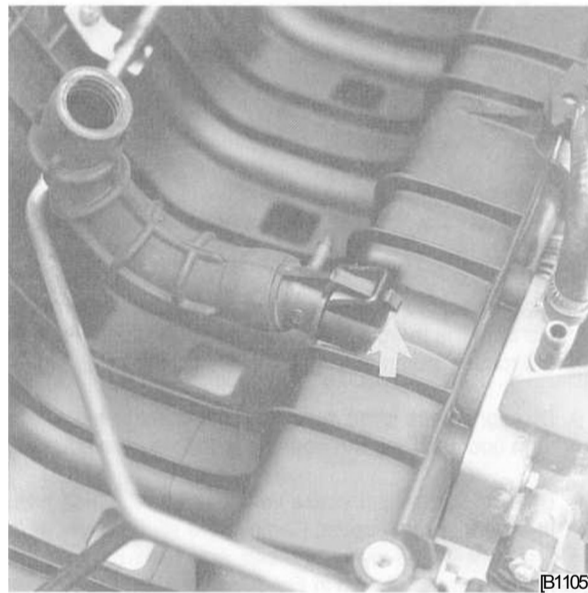

Fig. 13. Idle air hose at underside of Intake manifold. Gently depress retaining clip (arrow) and pull out hose fitting.
16. Working from the underside of the intake manifold, disconnect the large idle air hose from the intake manifold, see Fig. 13.